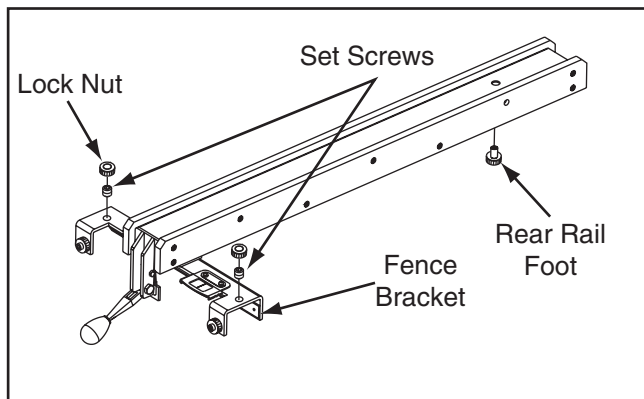

Figure 118. Fence components used to adjust fence height and squareness to table.
3. Adjust the set screws (**Figure 118**) on top of the fence bracket to ensure the fence face is 90° to the table, then tighten the knurled lock nuts.
Note: If the front end of the fence needs to be adjusted up or down, use the set screws from **Figure 118**; however, turn them in even increments and recheck the squareness afterwards.